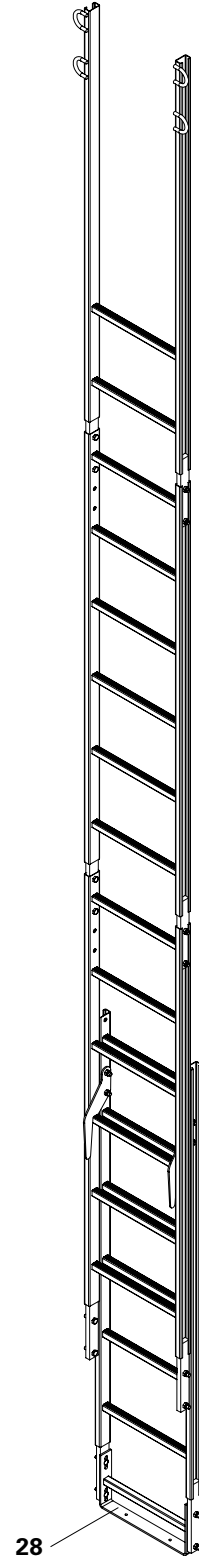

Fig. B2.03
- On the rungs of the bottom ladder (65) attach both ladder hooks of the Ladder 180/6 (25b) to be mounted and pull downwards. (Fig. B2.03)
(Fig. B2.03)